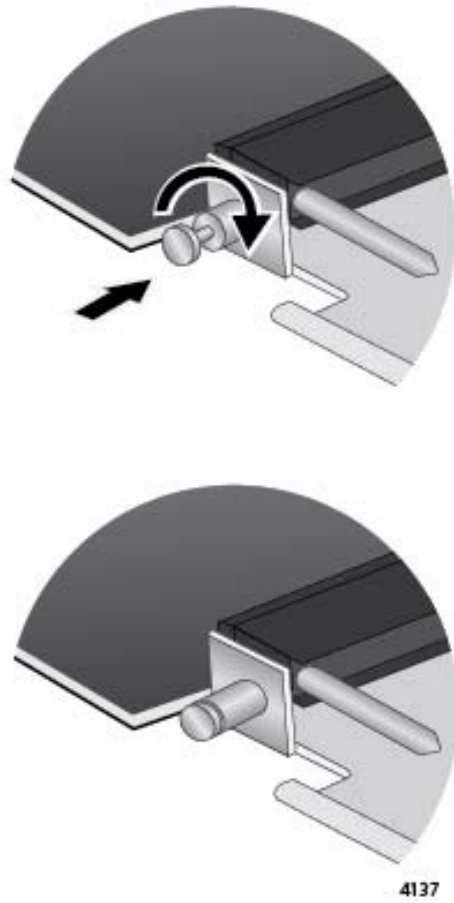

Figure 188. Releasing the Retaining Pin
11. Turn the retaining pin on the side of the card a quarter turn to release it. Refer to Figure 188 on page 291.